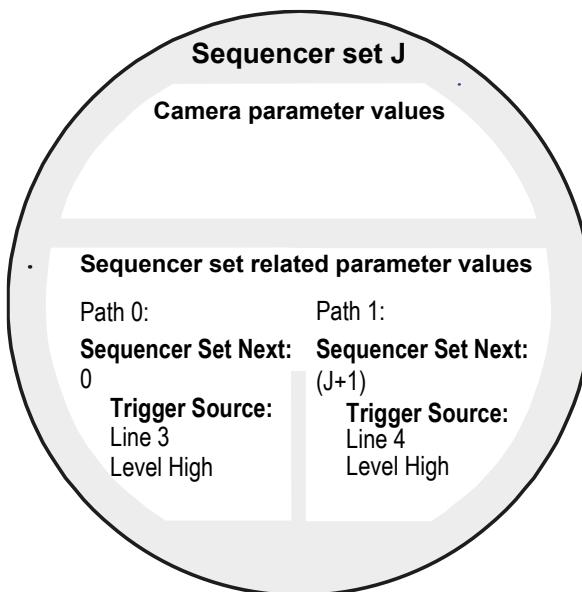

Fig. 87: Sequencer Parameters of Sequencer Set with Index Number J (Most Parameter Values as Examples)
The sequencer parameters can be divided into two types (see Figure 87):
- **Sequencer set related** parameters for sequencer control. The parameters define the details of advancing from one sequencer set to the next. This includes the possibility of choosing between different "paths" for advance, thus allowing to choose between different sequencer sets (see Figure 87 and Section 7.7.2.2).
For each path, the following parameters must be set (see also Figure 87):
- For each selected sequencer trigger source, the following parameter must be set (see also Figure 87):